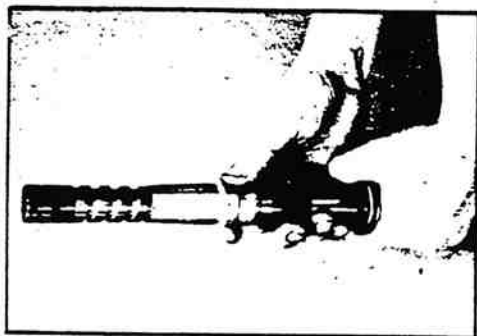
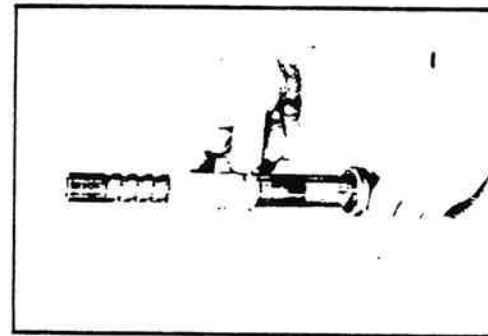

Figure 11-55. Installing O-ring.
Figure 11-56. Installing Teflon Seal.
1. Using seal installation tool J26739, assemble the new worm shaft backup O-ring (8) (figure 11-55), then the new teflon worm shaft seal (9) into the worm shaft ring groove (figure 11-56).